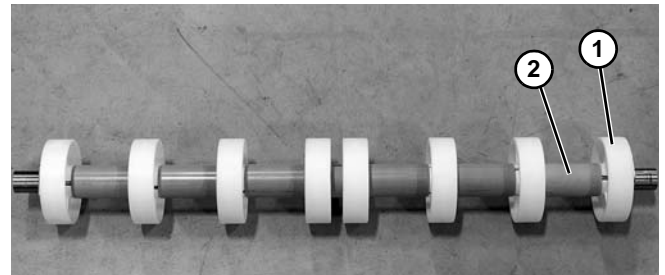

Figure 79
6. Remove pucks (**Figure 79, item 1**) and spacers (**Figure 79, item 2**) from the shaft. Repeat as needed.